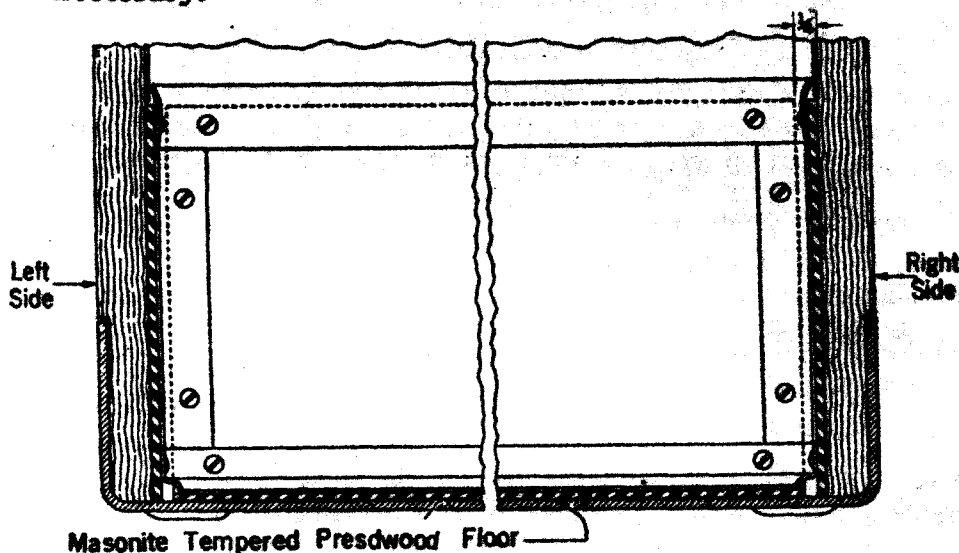

Fig. 10—Presdwood Floor in 5 and 6-Type Telephone Booths—Front View
8.02 When rubber or linoleum floor covering or associated base plates are so badly worn as to require replacement, replace with parts of floor assemblies, as required, in accordance with Figs. 10 and 11 as outlined below. In any case, base plates shall be of the same material as the floor covering.